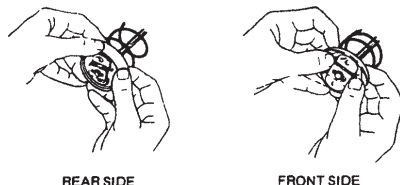

Figure 2
2. Visually check the follower seal lip direction before loading a new cartridge. The follower seal lip must be directed toward the follower handle or rear side for cartridge loading. See Fig. 2. (To change the